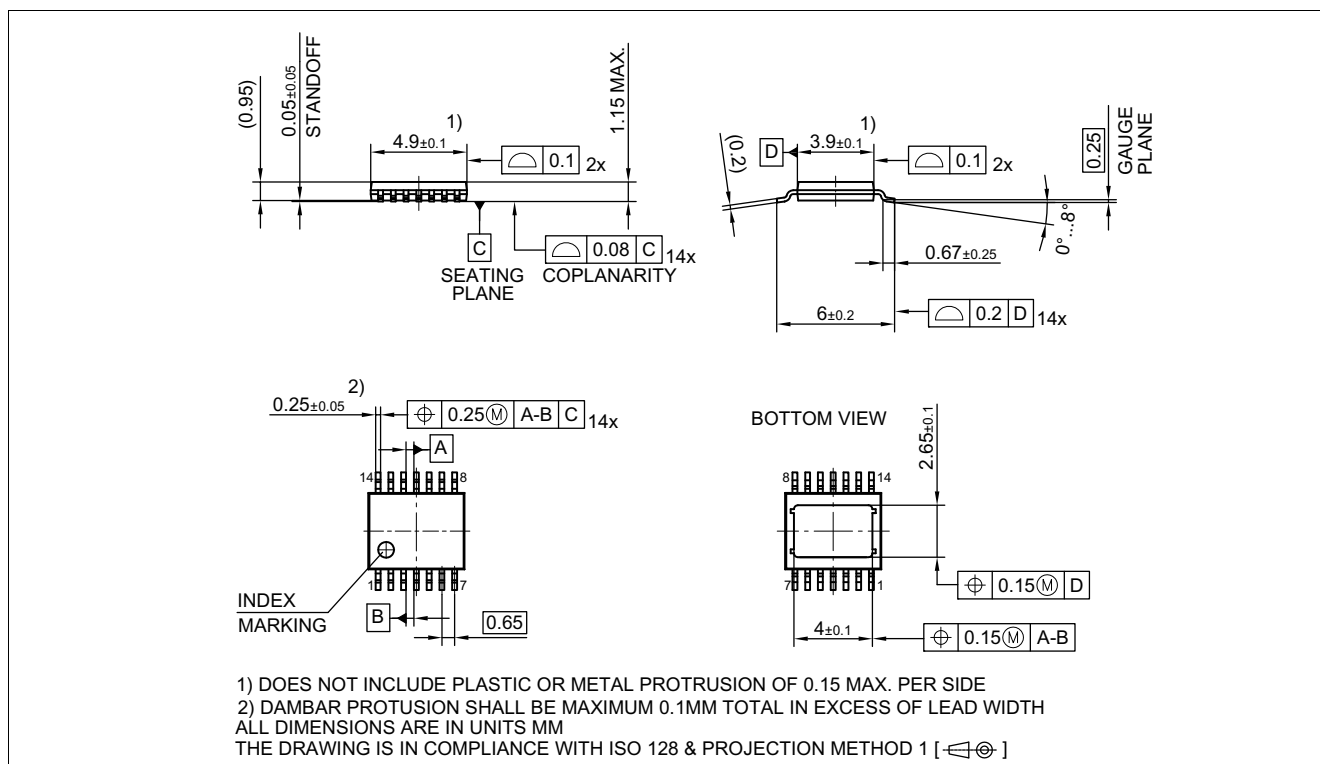
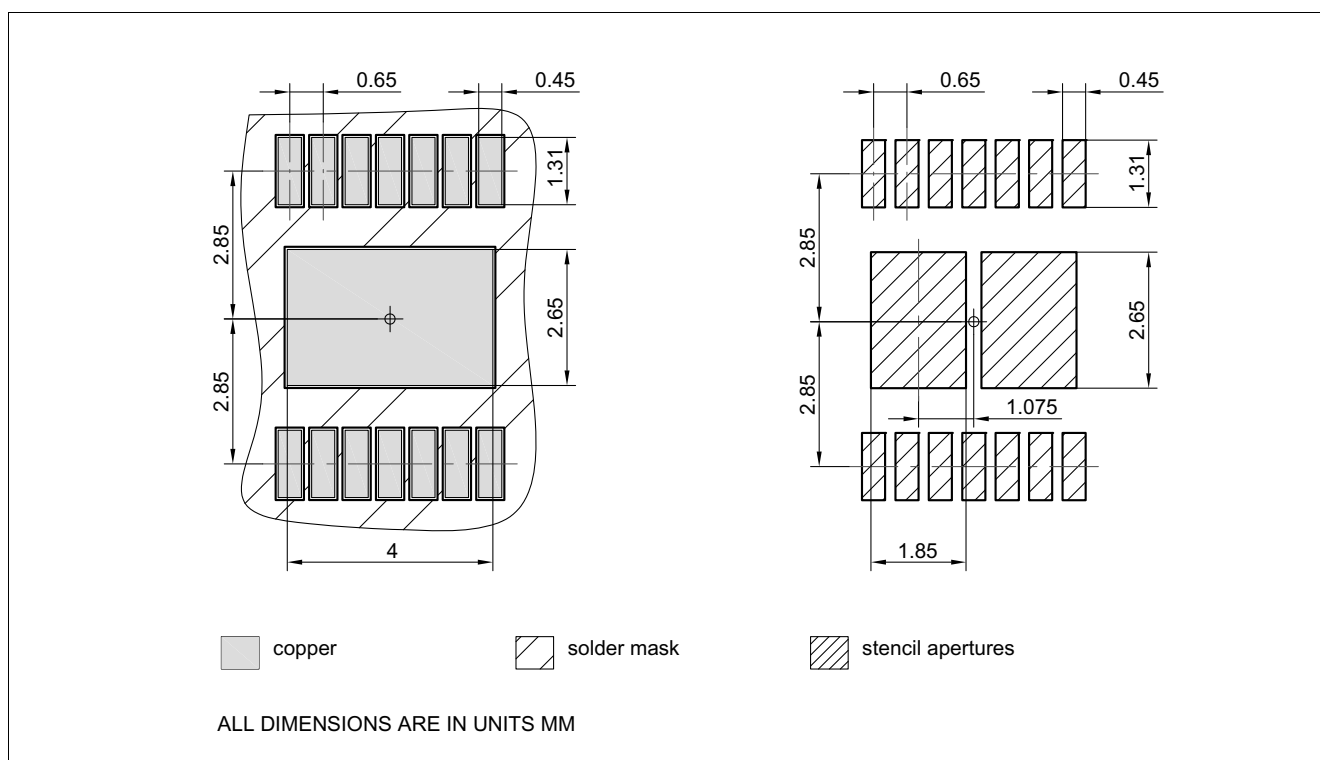

Figure 38 PG-TSDSO-14 (Thin (Slim) Dual Small Outline 14 pins) Package Outline
Figure 39 PG-TSDSO-14 (Thin (Slim) Dual Small Outline 14 pins) Package pads and stencil
1.02 , 2019-02-05	Figure 9, Figure 10 updated Page 1: updated (figure product) Table 22 updated (punctuation) Chapter 9.3, Chapter 9.3.1 updated (typo) Page 1: updated (Package PG-TSDSO-14-22 → Package PG-TSDSO-14) Figure 38 updated (PG-TSDSO-14-22 (Thin (Slim) Dual Small Outline 14 pins) Package Outline → PG-TSDSO-14 (Thin (Slim) Dual Small Outline 14 pins) Package Outline) Figure 39 updated (PG-TSDSO-14-22 (Thin (Slim) Dual Small Outline 14 pins) Package pads and stencil → PG-TSDSO-14 (Thin (Slim) Dual Small Outline 14 pins) Package pads and stencil) Table 1 updated (Parameter: Minimum Overvoltage protection ($T_J = 25\text{ °C}$) → Minimum Overvoltage protection ($T_J \geq 25\text{ °C}$)) Table 1 updated (corrected typo in table Product Summary: $I_{\text{VS(OFF)}}$: 1 → 0.4 μA) Table 1 updated (Symbol: $I_{\text{VS(OFF)}} \rightarrow I_{\text{VS(OFF)}_{85}}$) P_6.5.22.1 updated (Symbol: $I_{\text{VS(OFF)}} \rightarrow I_{\text{VS(OFF)}_{85}}$) P_6.5.22.2 updated (Symbol: $I_{\text{VS(OFF)}} \rightarrow I_{\text{VS(OFF)}_{150}}$)